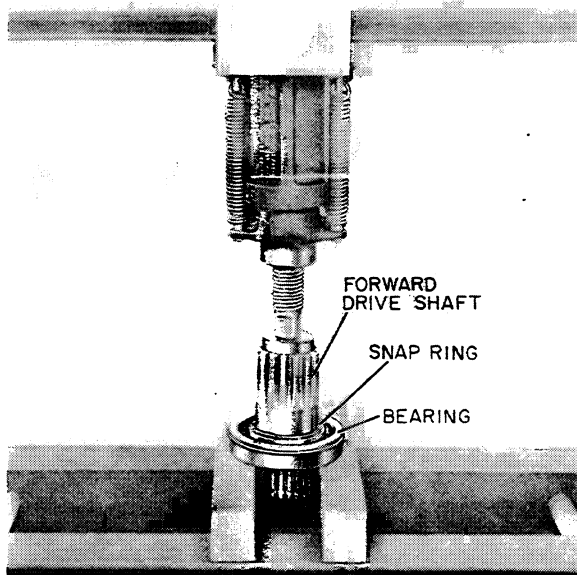

Figure S-59
1. First install the snap ring onto the forward drive shaft. Then press the shaft down through the bearing until the bearing is against the snap ring, Figure S-59.